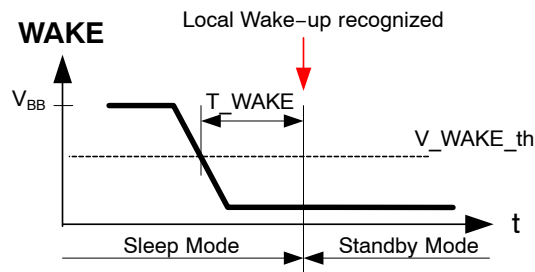

Figure 4. Local Wake-up Detection
- Local wake-up – when a high-to-low transition on pin WAKE is encountered and WAKE pin remains Low at least during TWAKE – see Figure 4.